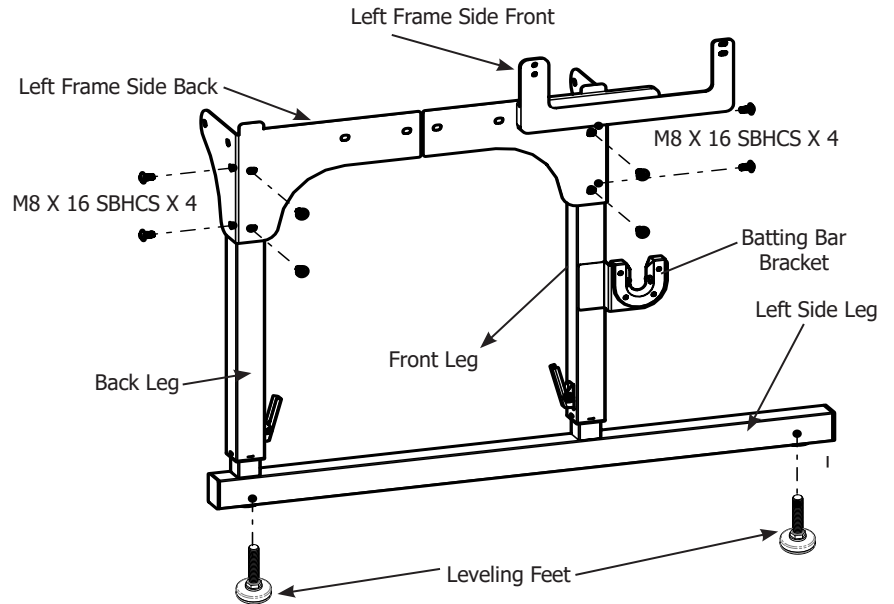

Fig. 1-1
Remember that the batting bar bracket needs to be on the outside of the leg. (Fig. 1-1)
1-1: Screw two (2) leveling feet about half way into the bottom of the left side leg, as shown in Fig. 1-1.